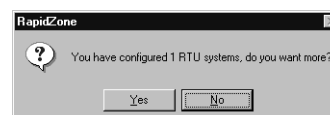

Fig. 14. Configure more RTUs screen.
- Click Next >> when finished with holidays. Fig. 14 appears.